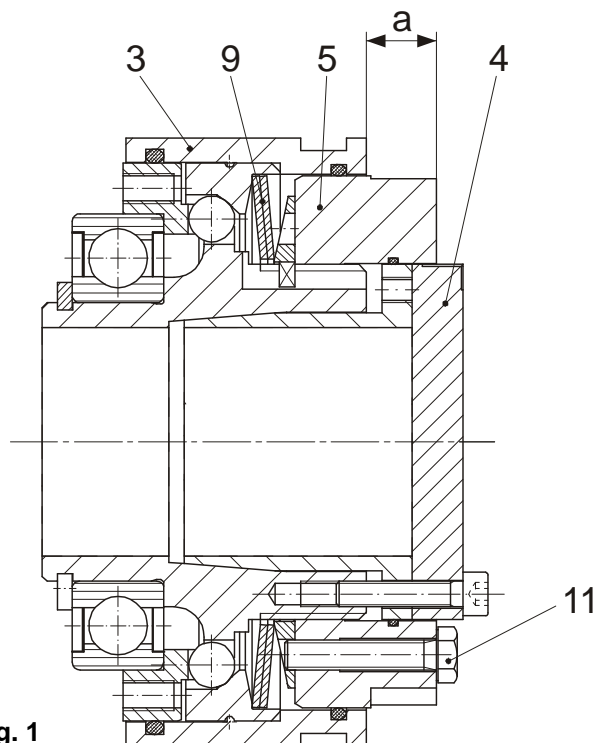
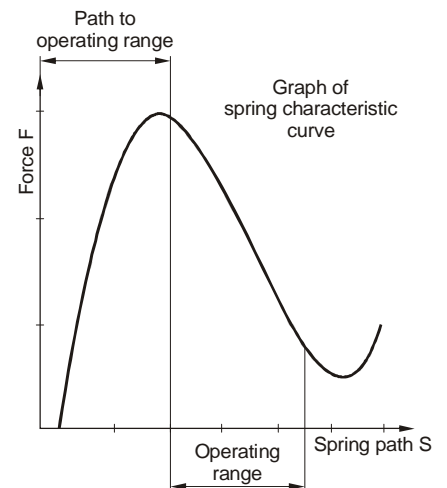

Fig. 1
Fig. 3 (The diagram serves only as an example)
Torque adjustment is carried out by turning the adjusting nut (5). The installed cup springs (9) are operated in the negative range of the characteristic curve (see Fig. 3). This means that tightening the adjusting nut (5) causes the spring force to decrease, and loosening the adjusting nut (5) causes the spring force to increase.
It is possible to check the "Spring operation in the operating range" (Fig. 3) using the dimension "a" (distance from the adjusting nut, facing side (5) to the sealing ring facing side (3) (Fig. 1)). Please see Table 1 for the respective values.
Adjusting the adjusting nut (5) or distorting the cup springs (9) out of the cup spring characteristic curve (see Fig. 3) stops the clutch functioning.
After de-installing the clutch (e.g. due to cup spring replacement or changes to the cup spring layering), the clutch must be readjusted and calibrated using dimension "a" (see Table 1 and Fig. 1).